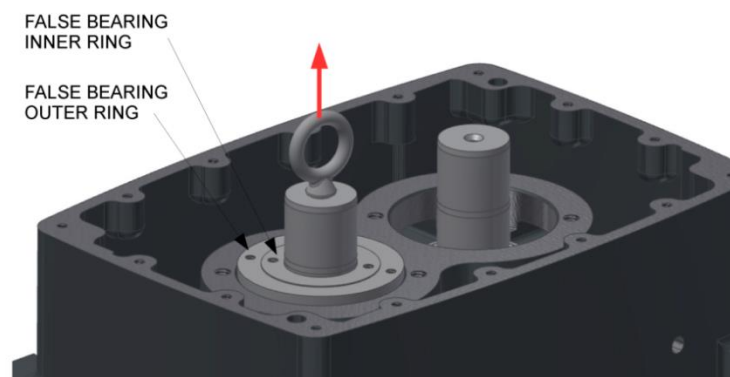

FIGURE 7-3 – MEASURE STEP IN FALSE BEARING
19. Put the false bearing (EQ149908) into the bearing bore for the idler (short) shaft. Screw an eye bolt into the end of the idler rotor and lift the rotor until the ends of the rotor lobes contact the end surface of the air cylinder. Using a depth micrometer measure and record the distance from the top surface of the outer ring of the false bearing to the top surface of the inner ring. The inner ring of the false bearing should be above the outer ring. See FIGURE 7-3.
21. Lower the rotor and remove the eye bolt. Remove the false bearing. Install the required amount of shims (13) as determined in step 20 onto the idler rotor shaft.